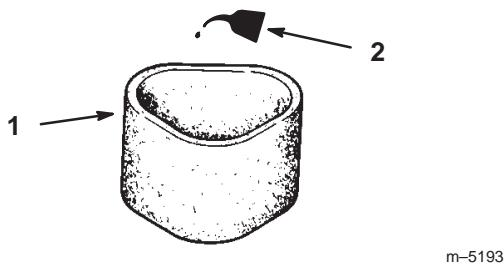

Figure 21
3. Put one or two ounces of oil on the element (Fig. 21). Squeeze the element to distribute the oil.